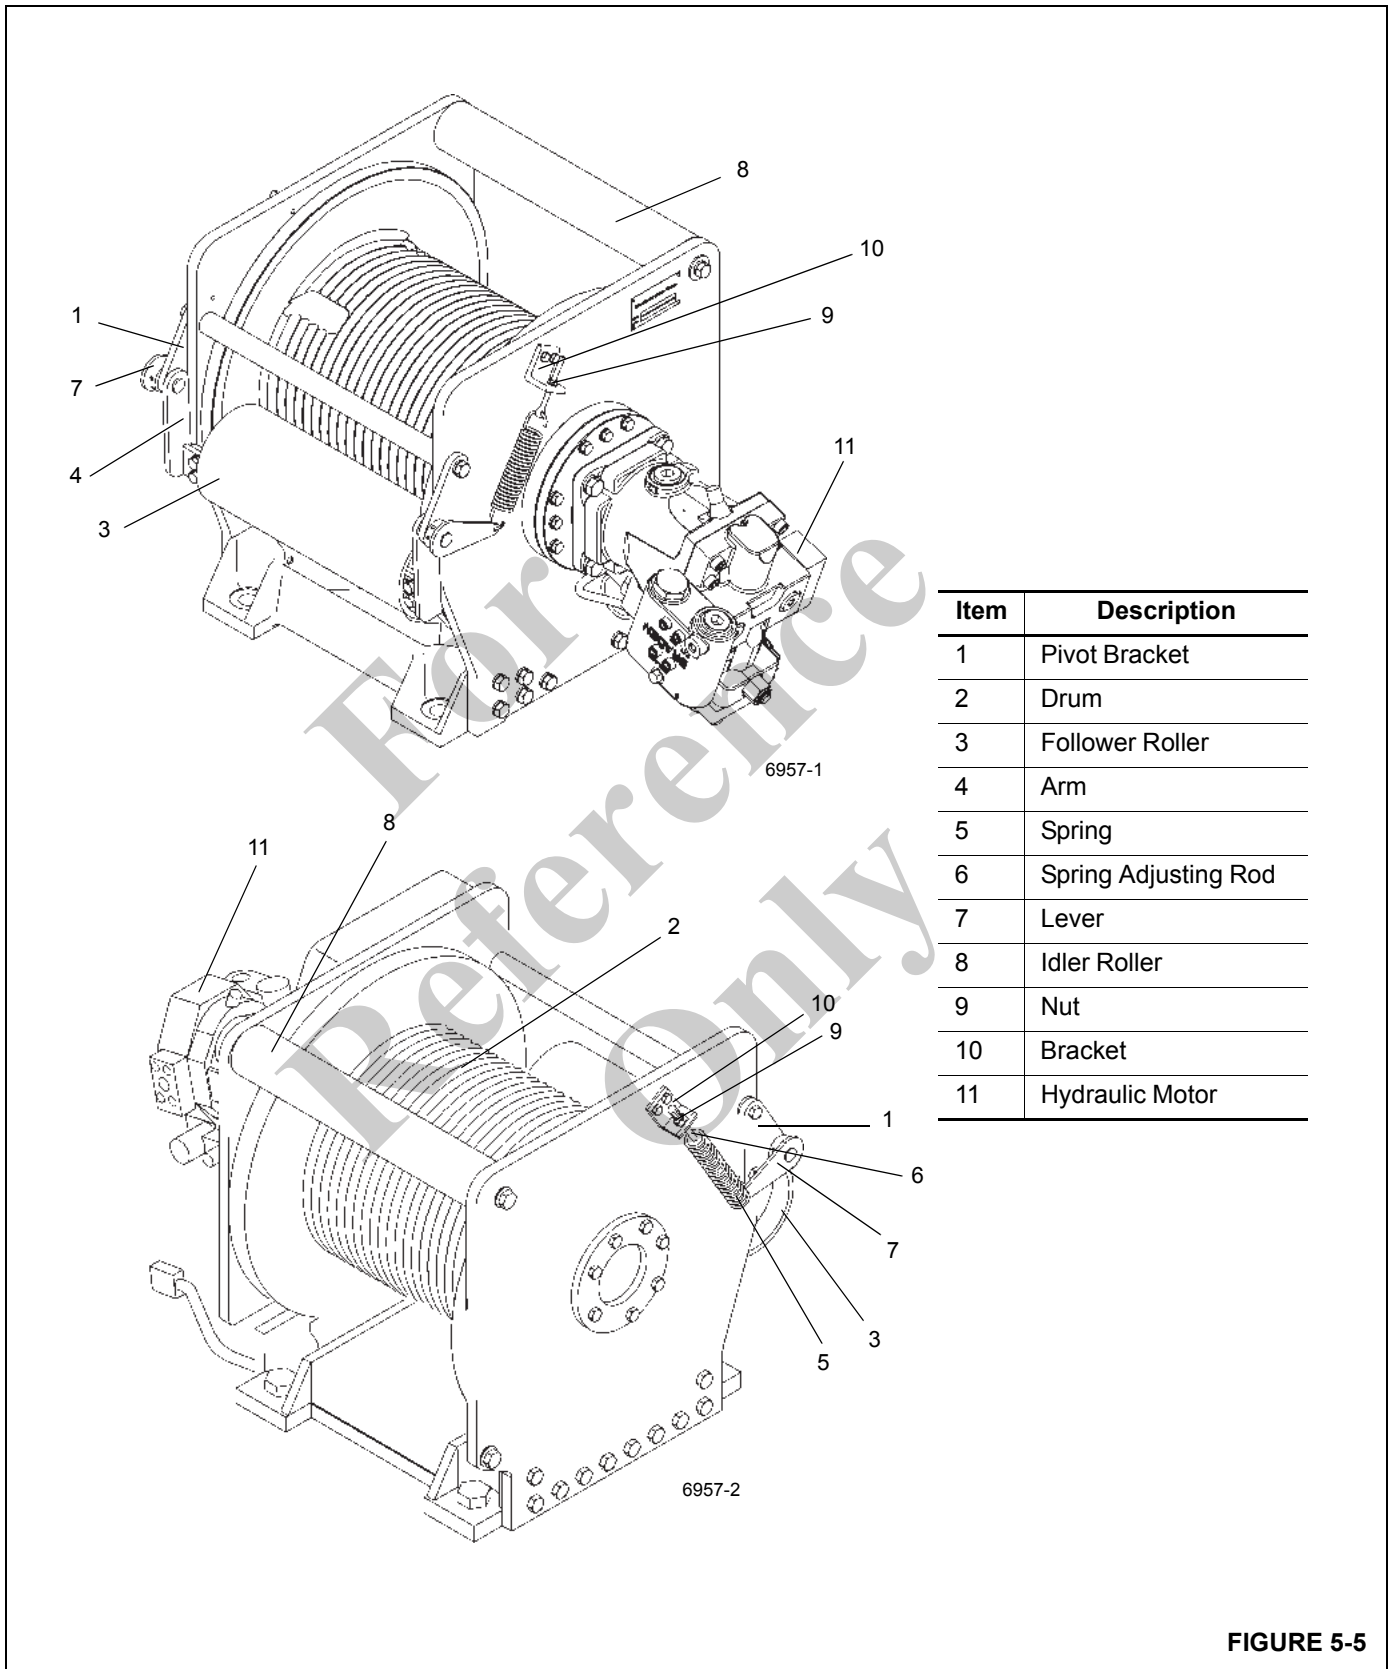

FIGURE 5-5
- Remove the bolt, washer, and lockwasher from the right side of the idler roller (Figure 5-5).
1. Loosen the adjusting nuts and remove the tension spring and adjusting rod from both sides of the hoist (Figure 5-5).